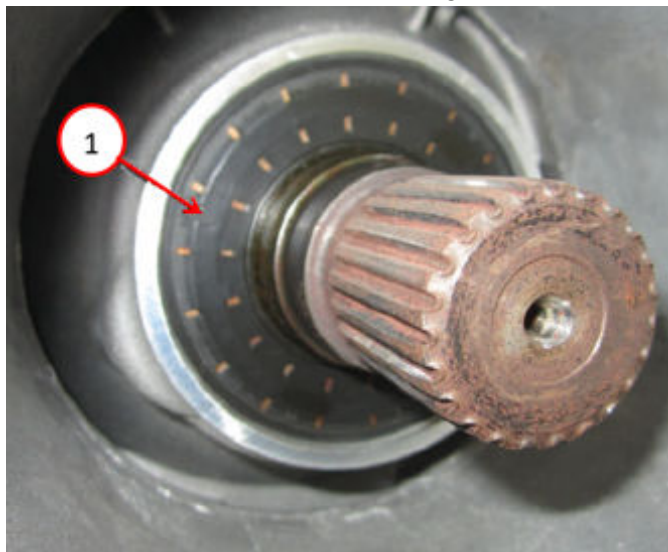

Fig. 51
77. Using a Seal Installer, install the output shaft seal Fig. 51.